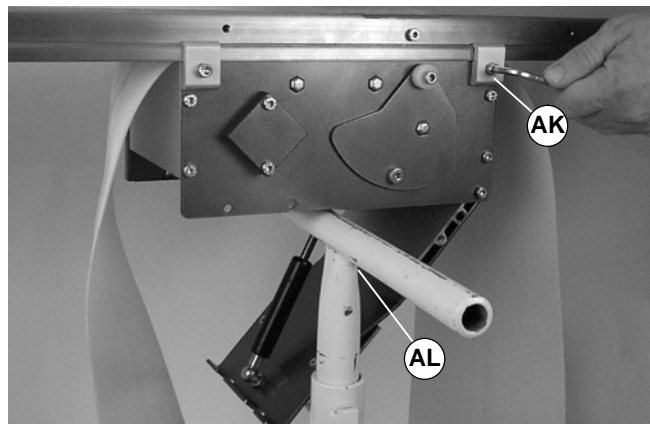

Figure 26
Before loosening clamps (AK of Figure 26), provide a support (AL) under center drive module.
1. Loosen clamp screw (AK of Figure 26) in each corner of module.
5. Replace center drive module onto conveyor and attach clamp (AK of Figure 26) in each corner. Tighten screws to 9 Nm.